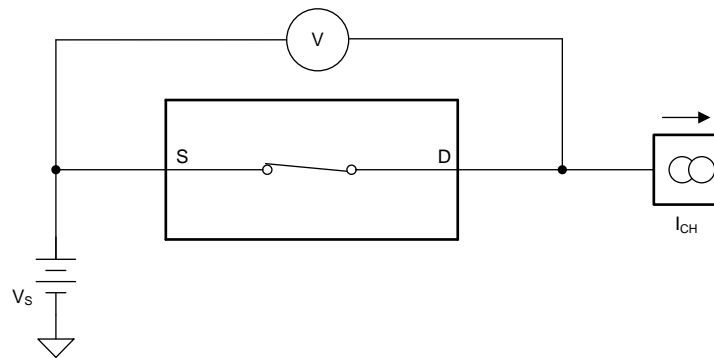

Figure 17. On-Resistance Measurement Setup
The on-resistance of the TMUX6119 is the ohmic resistance across the source (SA or SB) and drain (D) pins of the device. The on-resistance varies with input voltage and supply voltage. The symbol R_{ON} is used to denote on-resistance. The measurement setup used to measure R_{ON} is shown in Figure 17. Voltage (V) and current (I_{CH}) are measured using this setup, and R_{ON} is computed as shown in Equation 1: